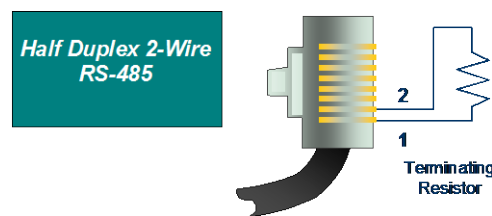

Figure 373: Termination RS-485 2-Wire Half Duplex
- B. Using an external jumper wire. To use this method, do NOT change the positions of the internal jumpers as shown in Figure 373 above. Instead, connect an external jumper wire across connector pins 3 and 7 for RS-485 4-wire, or across connector pins 1 and 4 for RS-485 2-wire.